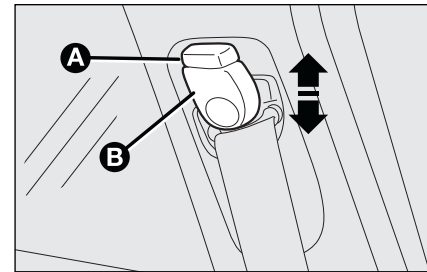

fig. 4
To adjust, press button **A**-fig. 4 and lower or raise the grip **B**.
*After adjustment, always check that the slider is anchored in one of the positions provided. To do this, with the button A-fig. 4 released, exert a further pressure to allow the anchor device to catch if release did not take place at one of the preset position.*